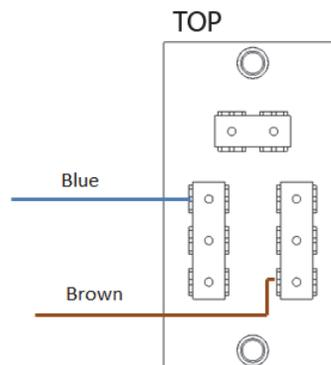

Figure 2E.
12. Connect line voltage of the power supply to the terminal board in locations, as shown in Figure 2E.